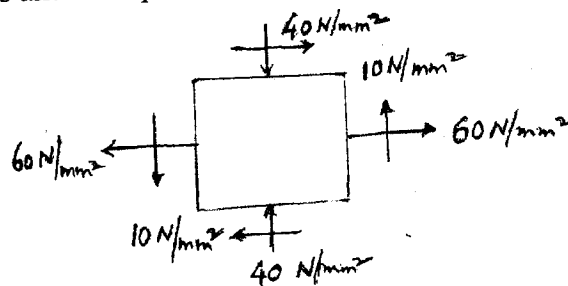

Fig.3(c)
- c. A plane element is subjected to stresses as shown in fig.3(c). Determine principal stresses, maximum shear stress and their planes. Sketch the planes determined. (10 Marks)